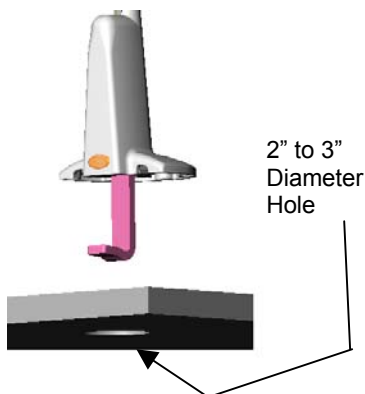
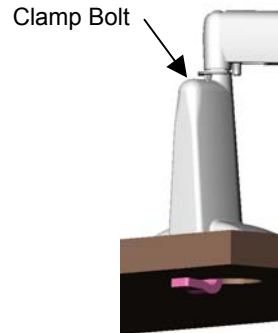

Figure 7. Install Base in 2" or 3" Diameter Hole
Figure 8. Secure Base in 2" to 3" Diameter Hole
4. Using the 3/16" hex wrench (provided), loosen the clamp wide enough to fit through the hole in your tabletop or work surface (see Figure 7).
5. Install the unit, fitting the clamp through the 2" to 3" diameter hole, and secure by tightening the clamp bolt (see Figure 7 and Figure 8).